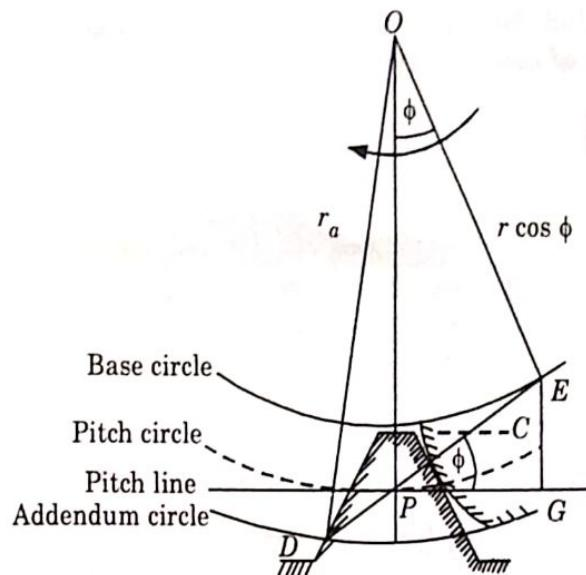

Fig. 2.23.1.
- Fig. 2.23.1 shows a rack and pinion in which pinion is rotating in the clockwise direction and driving the rack.
5. From Fig. 2.23.1, $GE = PE \sin \phi = (r \sin \phi) \sin \phi = r \sin^2 \phi$